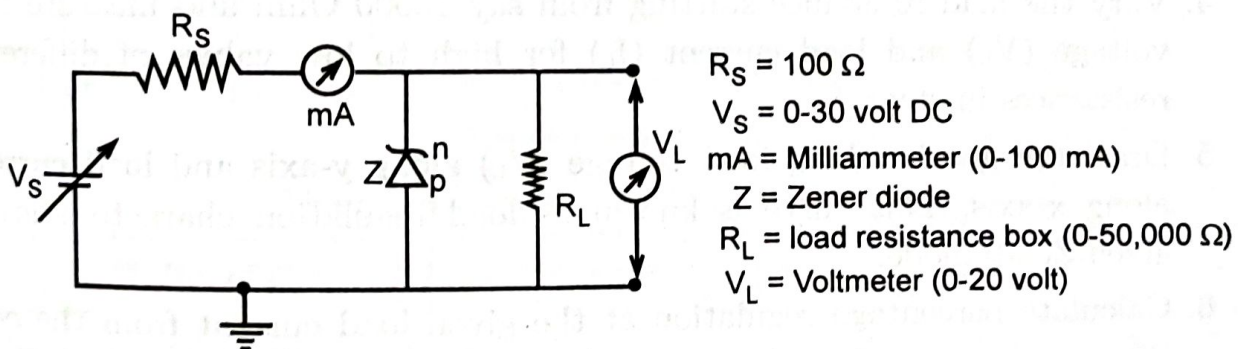

Fig.4.3: Circuit diagram for line regulation characteristics.
1. Arrange the circuit as shown in **Fig. 4.3**.